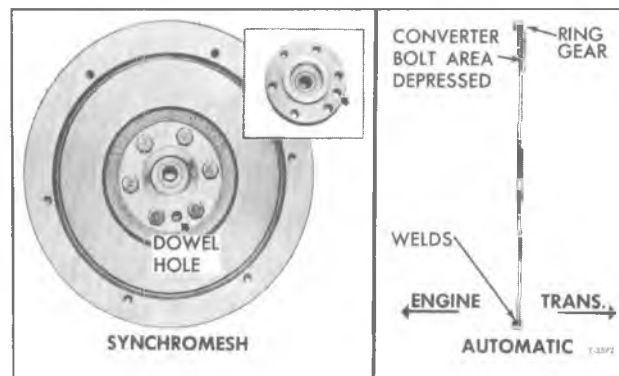

Figure 26—Flywheel Installation (Typical)
2. Clean mating surfaces on flywheel and crankshaft, then place flywheel at crankshaft and install bolts. Tighten bolts to 60 foot-pounds. Figure 26 shows flywheel installation views. Install clutch parts (if used) and install transmission.